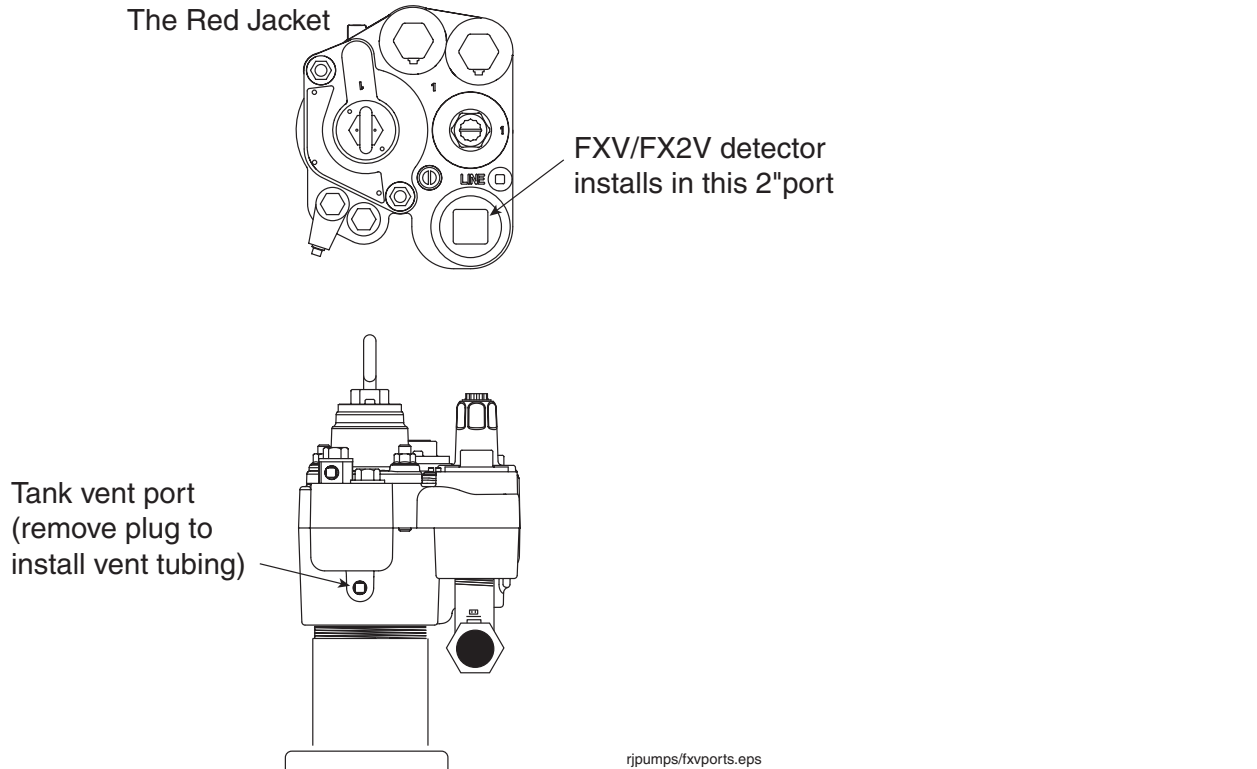

Figure 1. FXV installation ports in The Red Jacket
2. Remove the two-inch plug from the top of the Standard pump (see Figure 1 for The Red Jacket leak detector installation ports). If the two-inch plug is found to be so tight that cannot be removed, the submersible should be removed from the tank and placed in a vise. Remove the functional element assembly next to the pipe plug. The plug should then come out readily if a large pipe wrench is used. Replace functional element assembly securely and replace the pump in the tank. (See Step 3 before replacing pump).